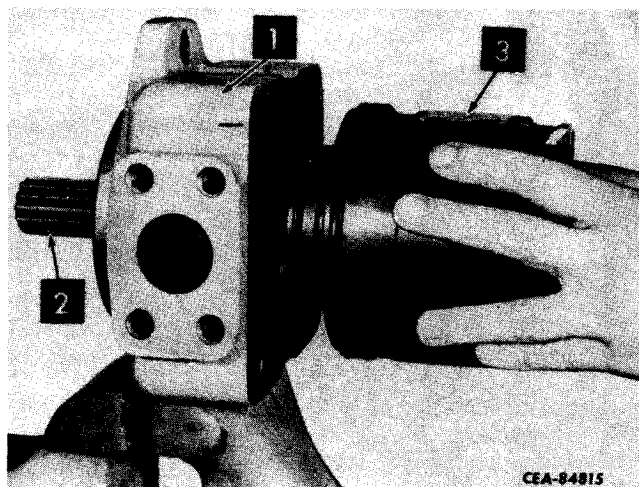

Figure 11-8
Slide cartridge (3, Fig. 11-8) from shaft (2) and pump body (1). Once again, note direction of rotation and GPM rating on cartridge.